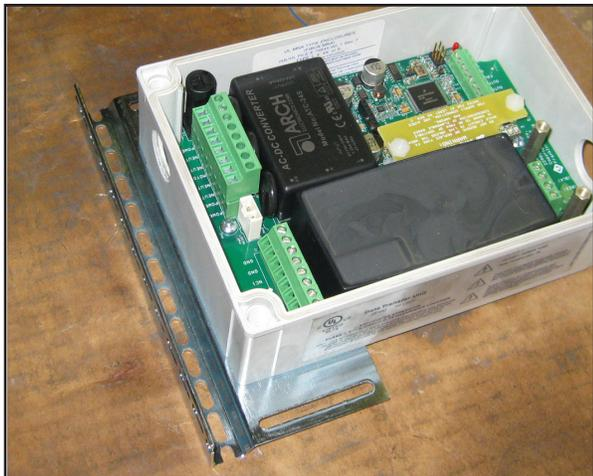

Figure 7: Mounting Bracket on DTU
- Install mounting bracket to DTU with two screws, nuts and washers from hardware provided with DTU, as described in the General Information Section. Make sure that bracket is installed on correct side as shown in Figure 7.